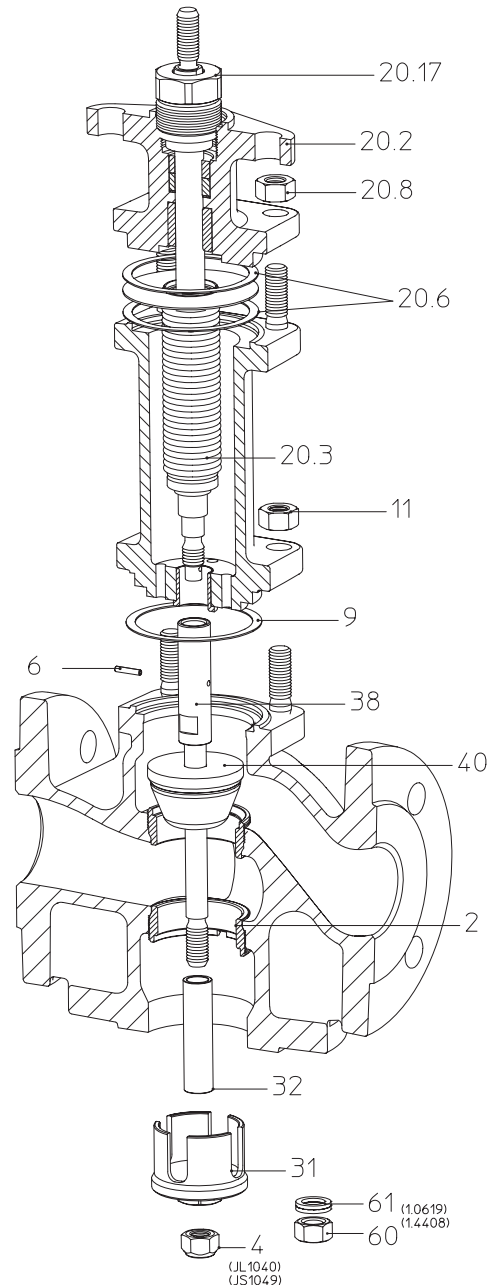

Fig. 18:
- Slacken screw joint (pos. 20.17) respectively sleeve nut (pos. 20.16) by about one turn.
- Unscrew the bottom seat ring (pos. 2) (refer to point 7.2) - with diverting plug version (Fig. 18, Fig. 19) not necessary.
- Unscrew hexagon nut (pos. 4 or pos. 60), (holding against spanner face).
- Remove plug (pos. 3 or 31).